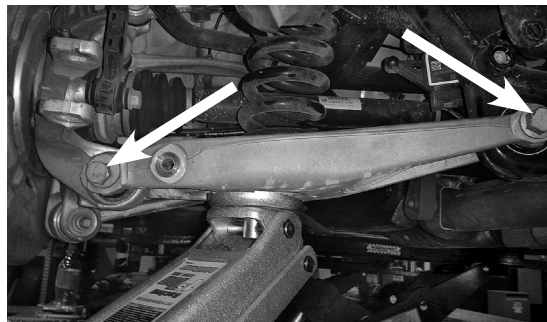

Fig. 8
6. Make sure jack stands are in place and secure. Release the jack and move it to support the control arm. Loosen the inner bolt on the lower control arm, but do not remove it. Loosen and remove the outer bolt on the lower control arm (Fig. 8).